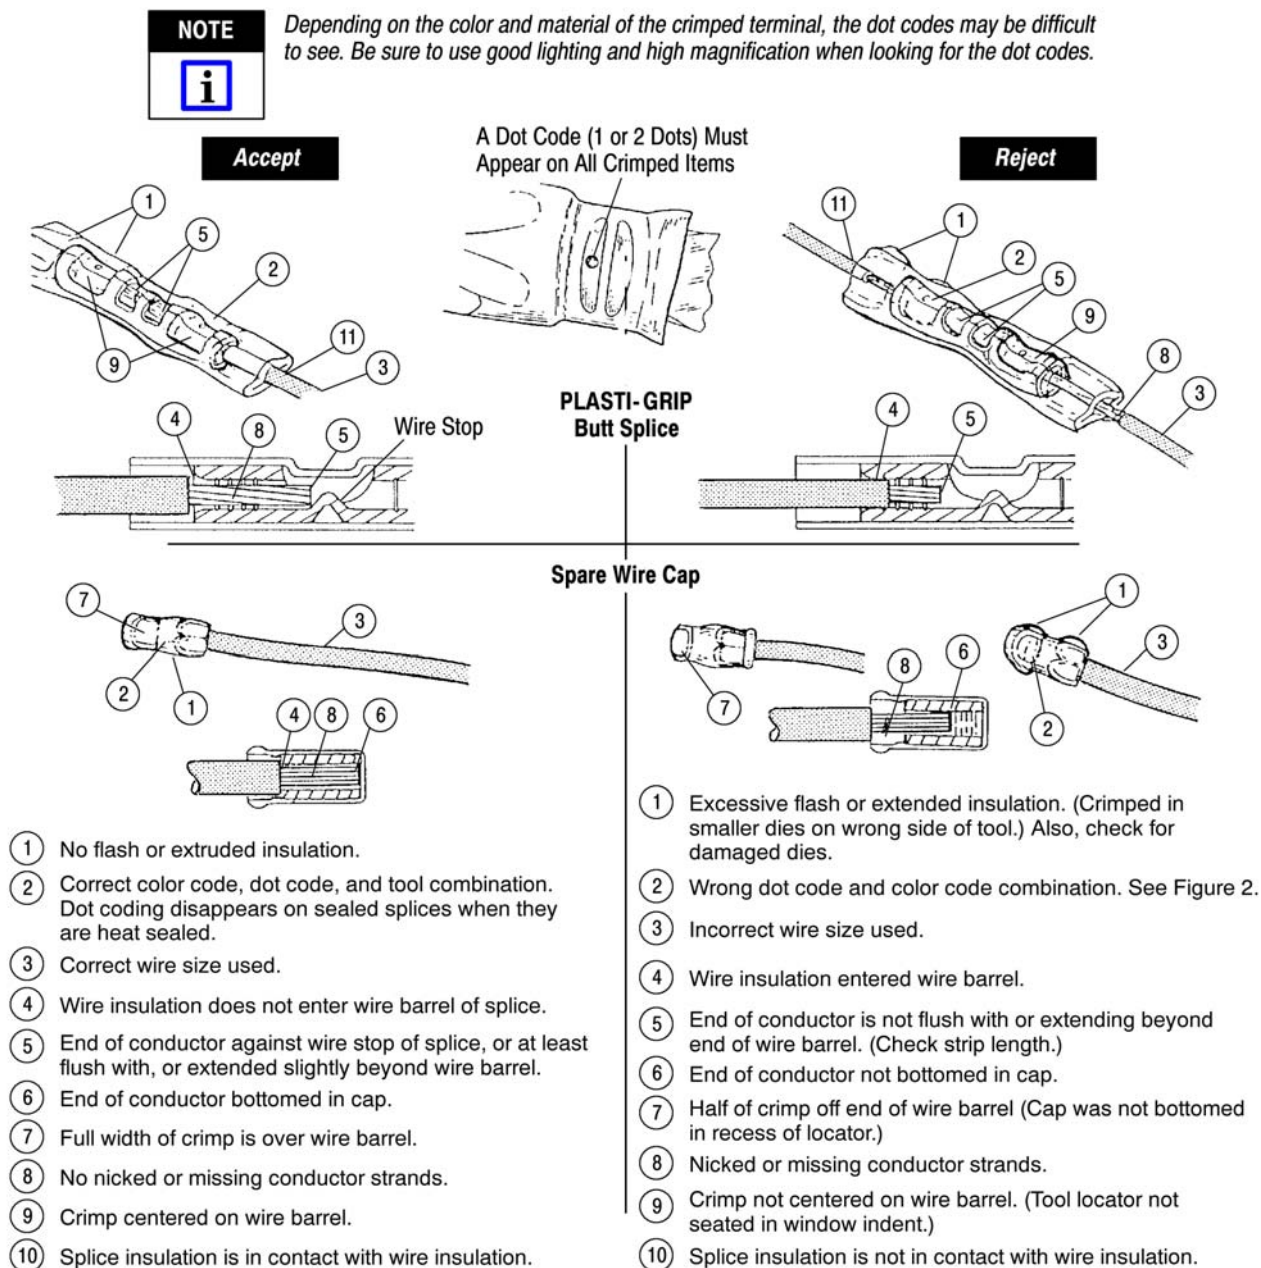

Figure 7
- Refer to Section 6 and Figure 6 or Figure 7 for terminal or splice "Crimp Inspection" procedure.
8. Refer to Section 6 and Figure 7 wire cap crimp inspection procedure.
Inspect crimped terminals, splices and spare wire caps by checking the features described in Figure 6 or Figure 7.